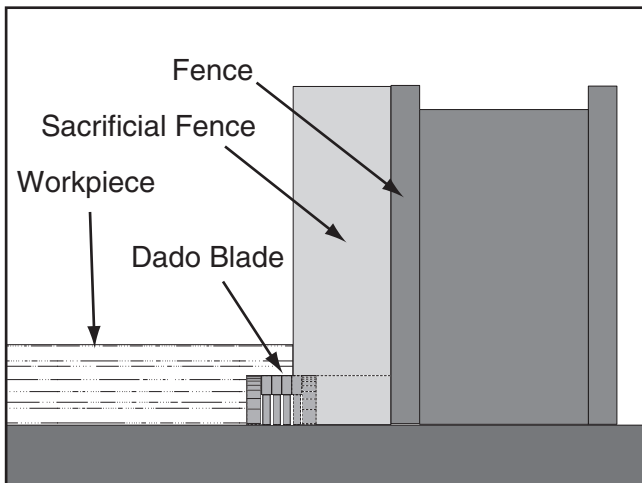

Figure 51. Rabbet cutting.
6. Align the workpiece to perform the cutting operation as shown in **Figure 51**.